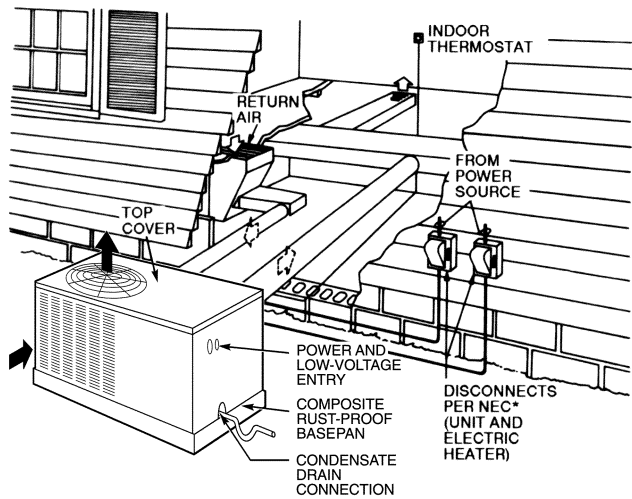

**Fig. 11 — Area Not To Be Drilled More Than  $\frac{3}{4}$ -in.**
**⚠ CAUTION:** When drilling the duct system fastening holes into the side of the unit for duct flanges, do not drill deeper than  $\frac{3}{4}$  in., and use extreme care not to puncture the coil or coil tubes. See Fig. 11.